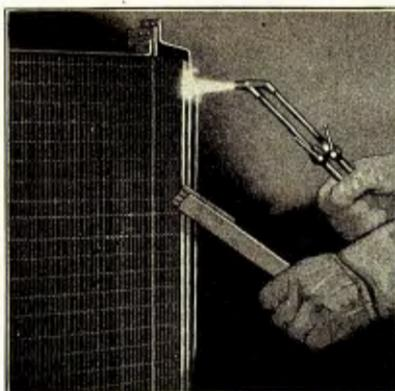

Fig. 406
- 814** Place the radiator on its side (See Fig. 406) and apply the heat to the side seam, commencing at the point where outlet connection is soldered to side seam. With a brush remove the heated solder as it flows from the joint. Do this on all four seams. When the joints show that most of the solder has been removed, bring all the tank to heat at once by moving the torch rapidly over it. Grasp the outlet connection with a pair of pliers and remove the tank, applying heat to any point that may be sticking.